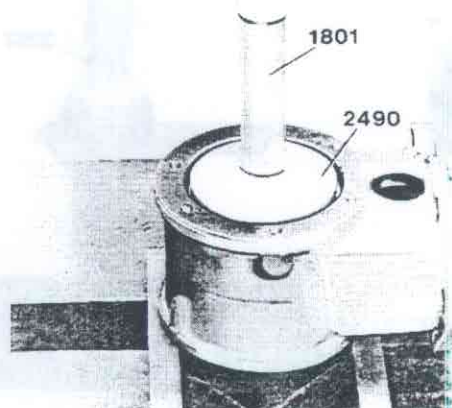

Fig 46-142 Removing the bearing
11. Press out the gear and bearing from the housing with 2490 and 1801, see Fig. 46-142.